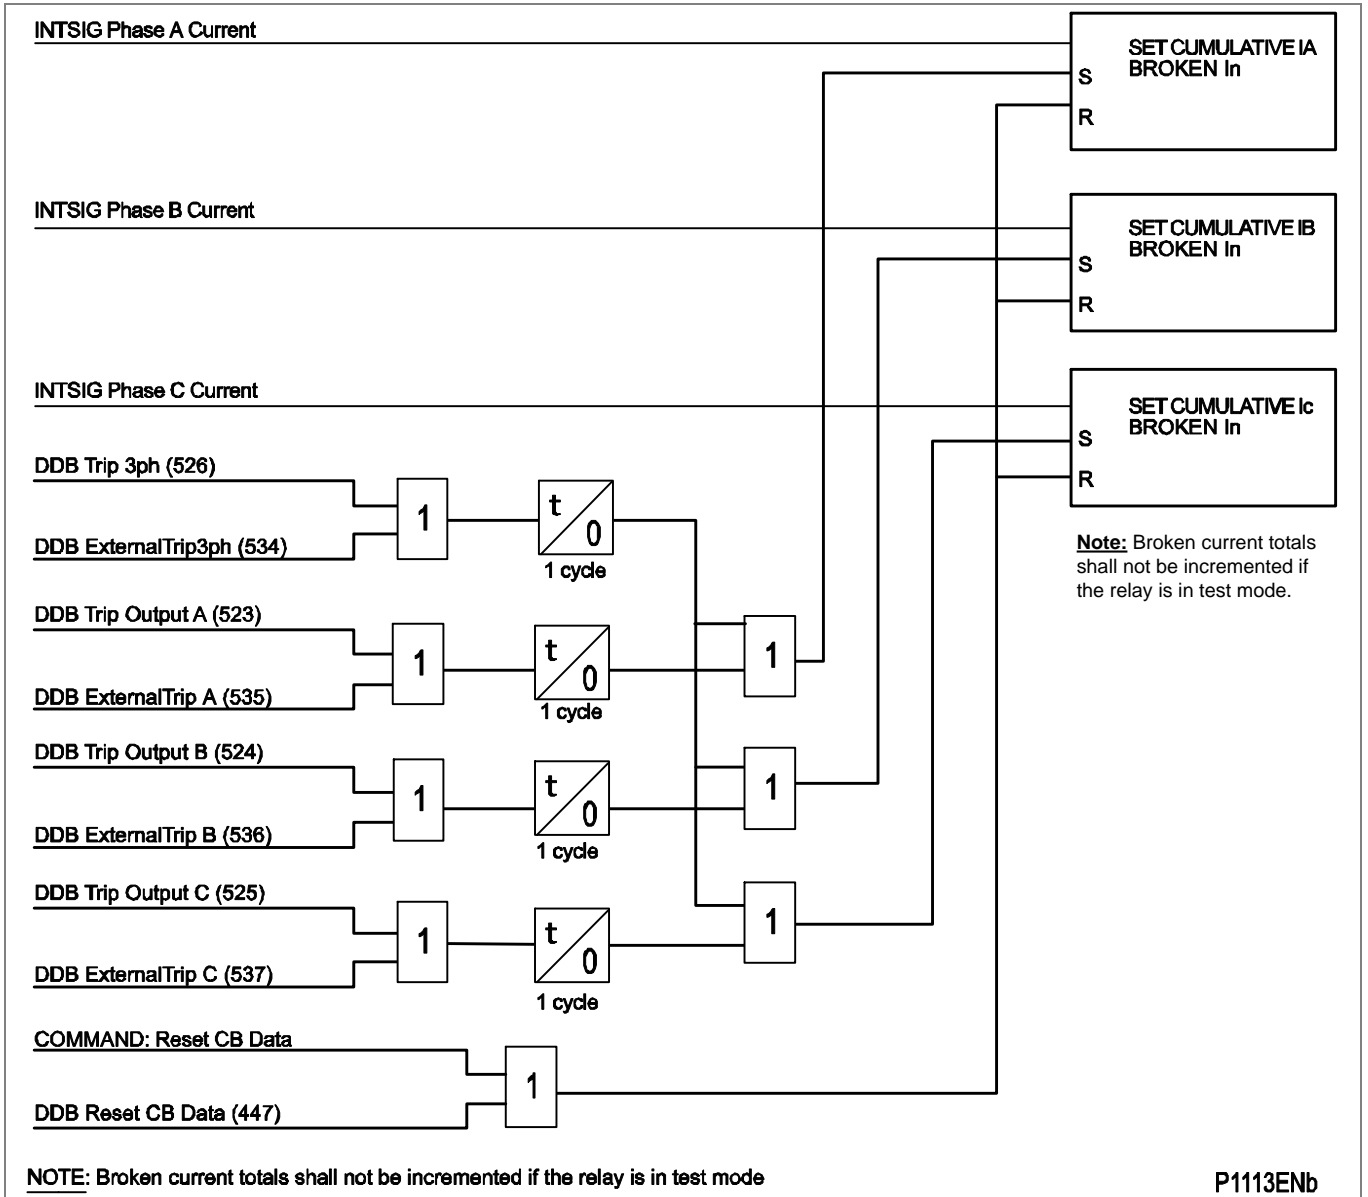

Figure 1 - Circuit breaker condition monitoring - broken current
- Figure 1 - Circuit breaker condition monitoring - broken current